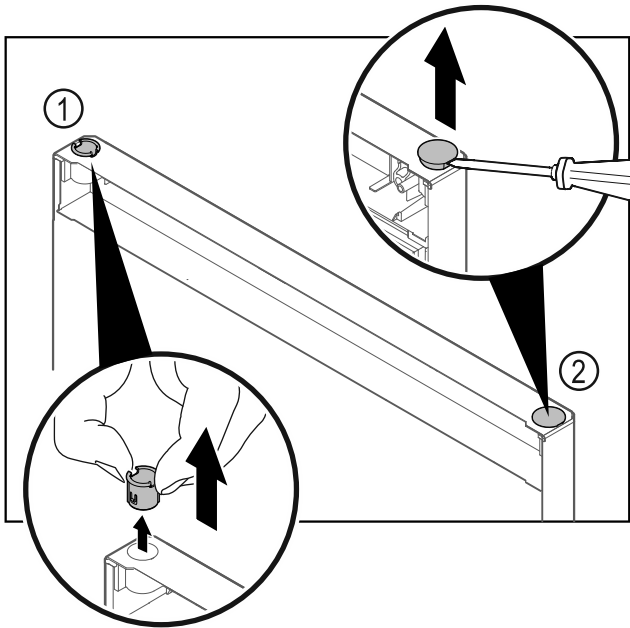

Fig. 16
- ▶ Pull out the hinge bushing Fig. 16 (1) with your fingers.
- ▶ Carefully lift the cover plug Fig. 16 (2) with a slotted screwdriver and pull it out.